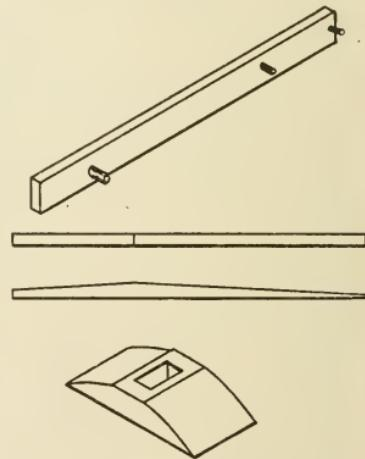

FIG. 100.—CATCH, SPRING, AND SLOT OF GATE.
4. Making catch, spring, and slot.—The catch should be made of some hard wood $1'' \times 3'' \times 4' 6''$. $1''$ from one end a $\frac{1}{2}''$ hole is bored, $12''$ from the same end another $\frac{1}{2}''$ hole is bored, $9''$ from the other end another hole of the same size is bored. Hard wood pegs should be fitted in these holes. The one for the first hole needs to be about $3''$ long, while the other should be about $5''$ long so that it can be handled easily in pulling back the catch to open the gate (Fig. 100). The spring should be made of hickory $3' 3''$ long and about $1''$ square.
post is large; otherwise one can be made from a block of hard wood, as shown in Fig. 100, and nailed to the post. Lay the catch where it belongs on the gate and nail over it two strips in line with the two uprights.